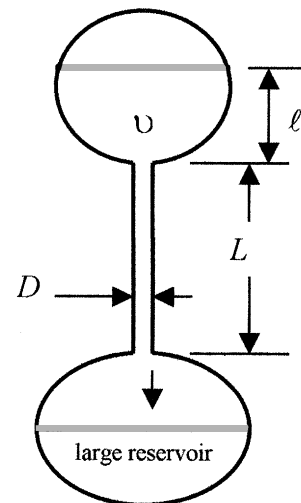

Fig. P6.17
**6.17** A capillary viscometer measures the time required for a specified volume  $v$  of liquid to flow through a small-bore glass tube, as in Fig. P6.17. This transit time is then correlated with fluid viscosity. For the system shown, (a) derive an approximate formula for the time required, assuming laminar flow with no entrance and exit losses. (b) If  $L = 12 \text{ cm}$ ,  $l = 2 \text{ cm}$ ,  $v = 8 \text{ cm}^3$ , and the fluid is water at 20°C, what capillary diameter  $D$  will result in a transit time  $t$  of 6 seconds?